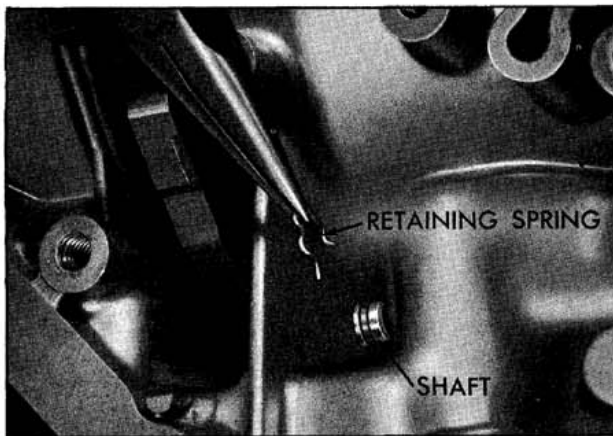

Fig. 6-65 Removing Retainer Spring Clip
- i. Remove parking pawl shaft retainer. (Fig. 6-65)